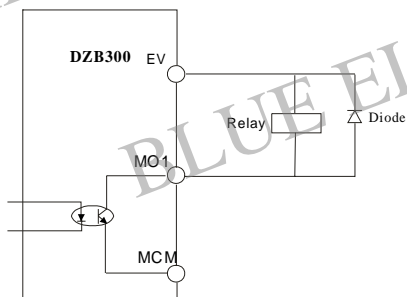

Fig. 3-8 Digital Input Terminal of DZB Series Inverter
**Note:** Pay attention to the polarity of the diode as shown in the figure 3-8. Otherwise if the digital output terminal has output, the DC24V power supply will be damaged.